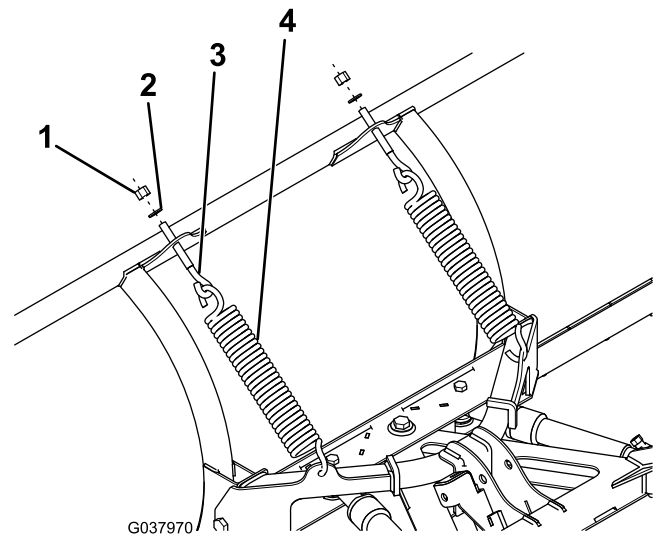

Figure 3
3. Hook the 2 trip springs through the holes on the push-frame assembly (Figure 3).
4. Hook the other ends of the trip springs to 2 eyebolts (Figure 3).
5. Insert the threaded end of the eyebolts through the holes on the plow blade and secure them using 2 washers (1/2 inch) and 2 self-locking nuts (Figure 3).